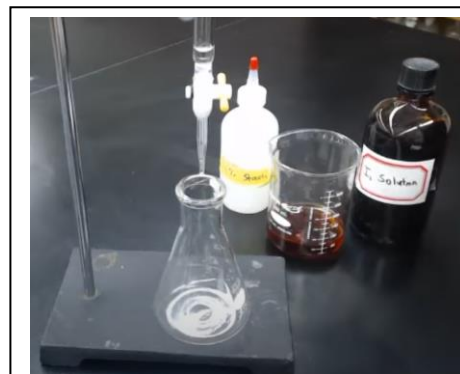

Figure 2 – experimental setup
2. Compound "K" is a straight-chained hydrocarbon containing 5 carbon atoms. A pure, 0.520 grams sample of compound "K" (molar mass 66 amu) was dissolved in 100 mL using an appropriate solvent and the resulting clear solution placed in a 200 mL conical flask. A few drops of a colourless starch solution was added to the flask and the clear solution titrated against a 1.00 M I2. The experimental setup is shown in fig. 2.